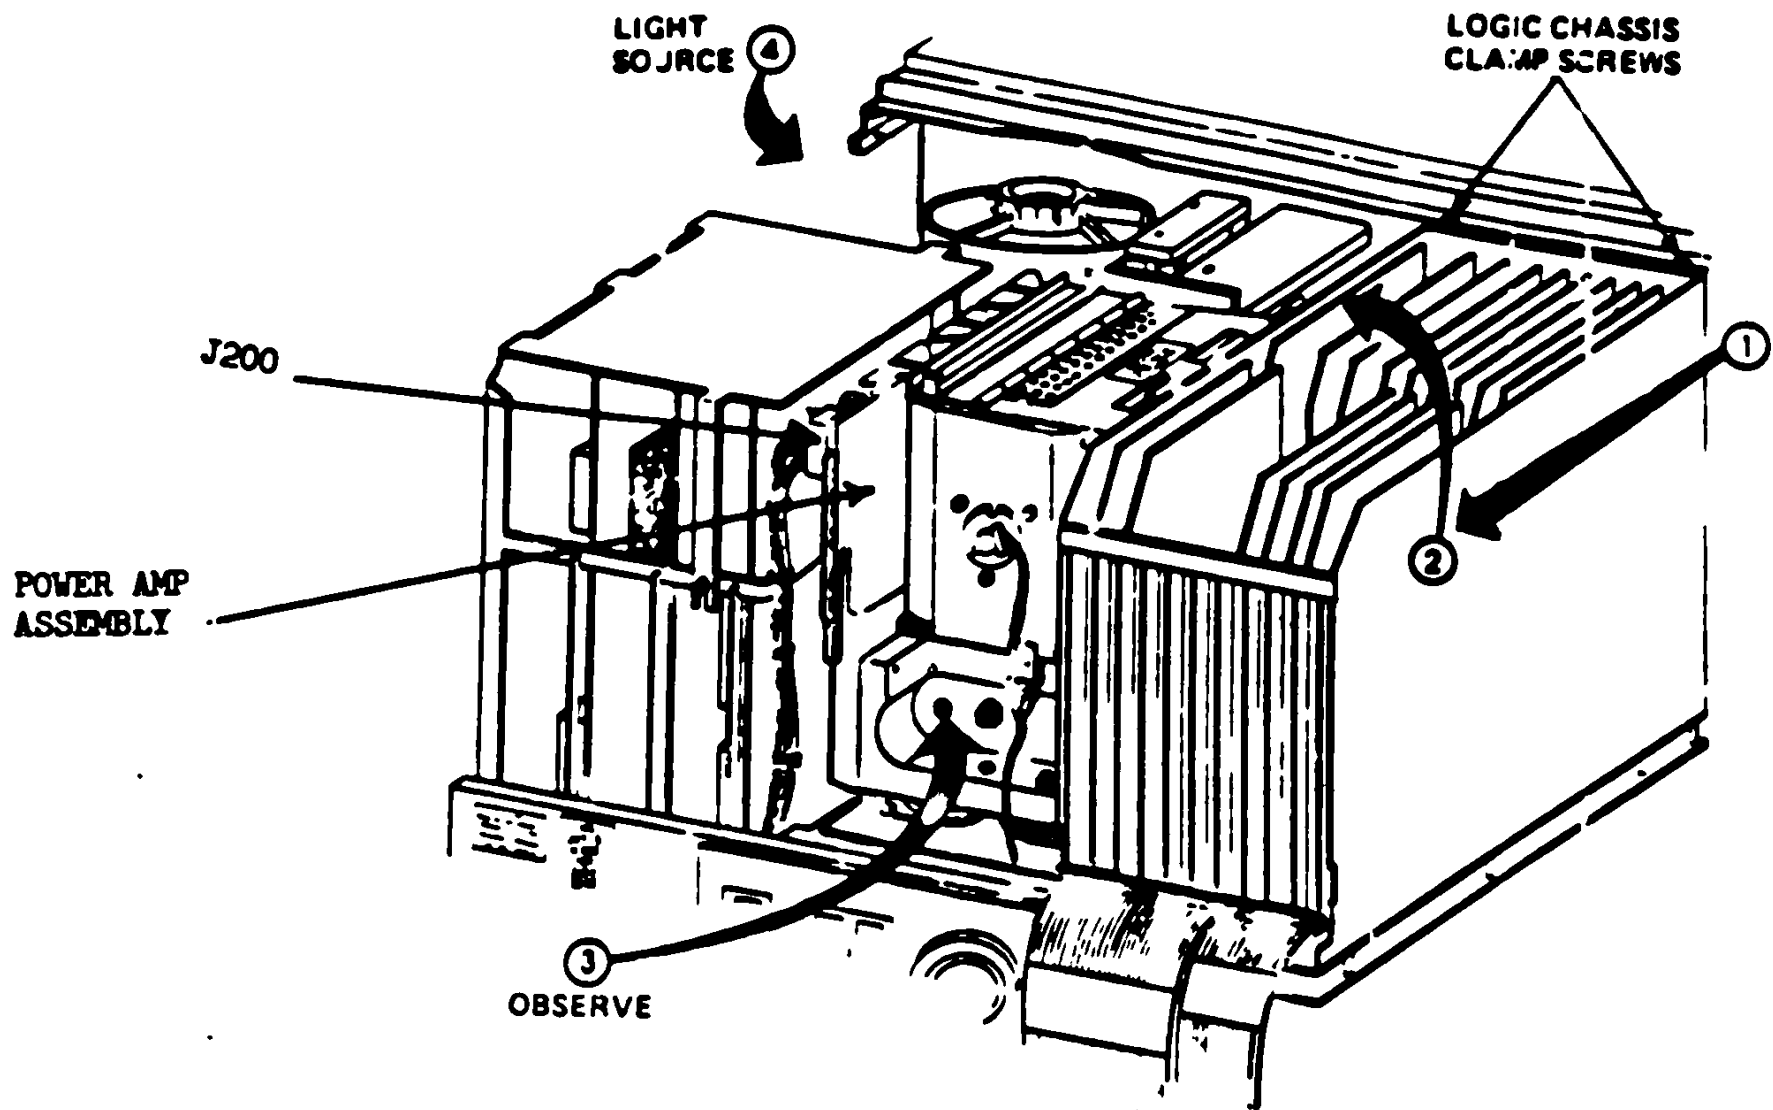
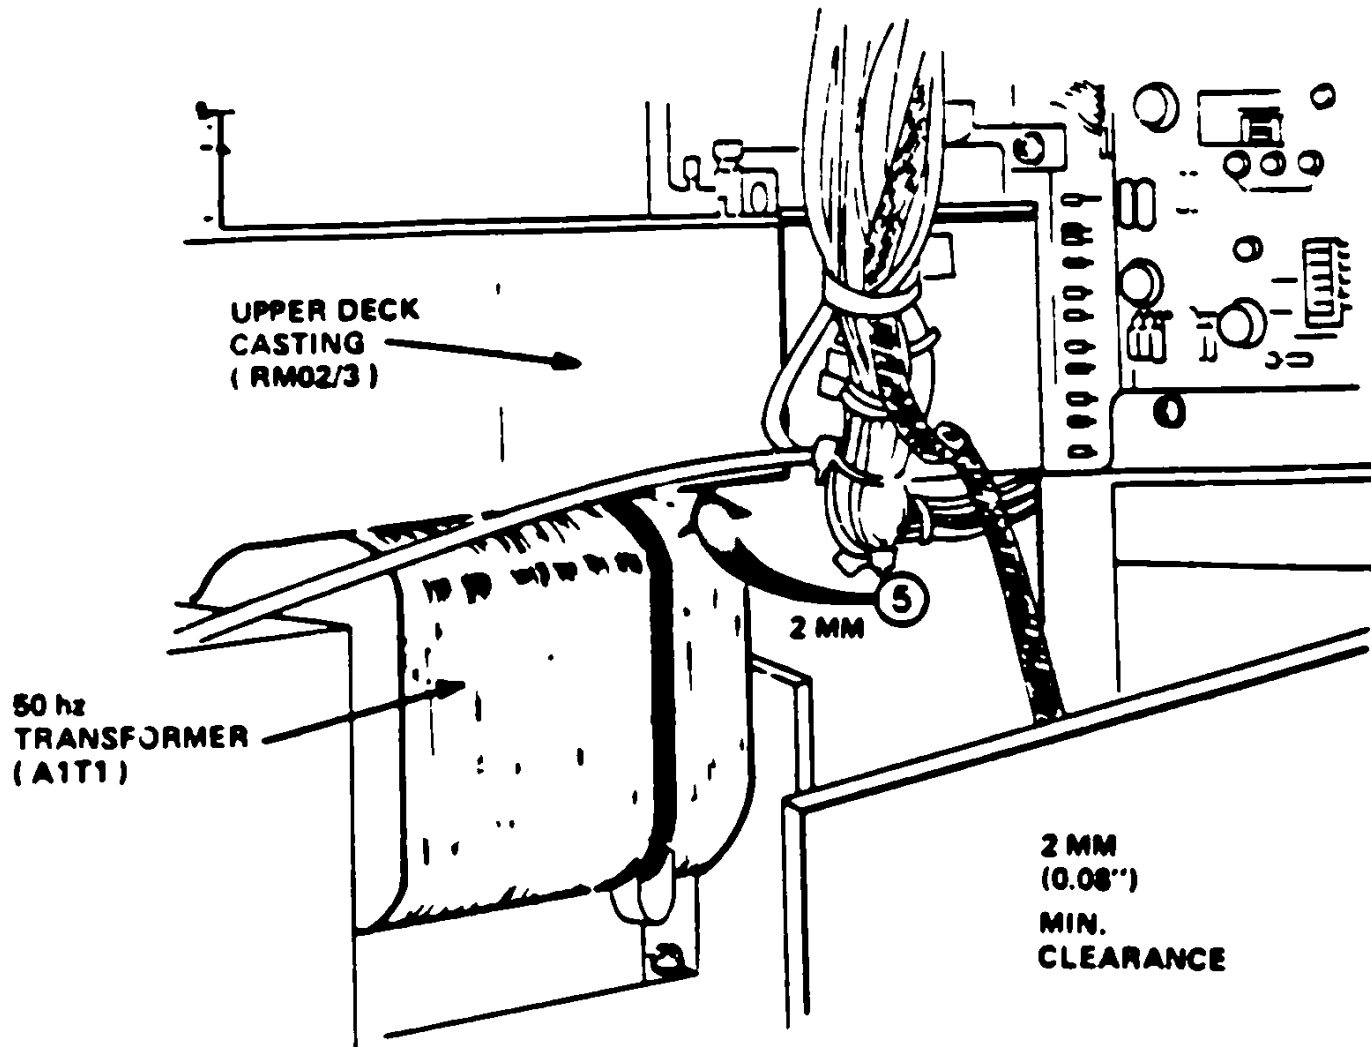
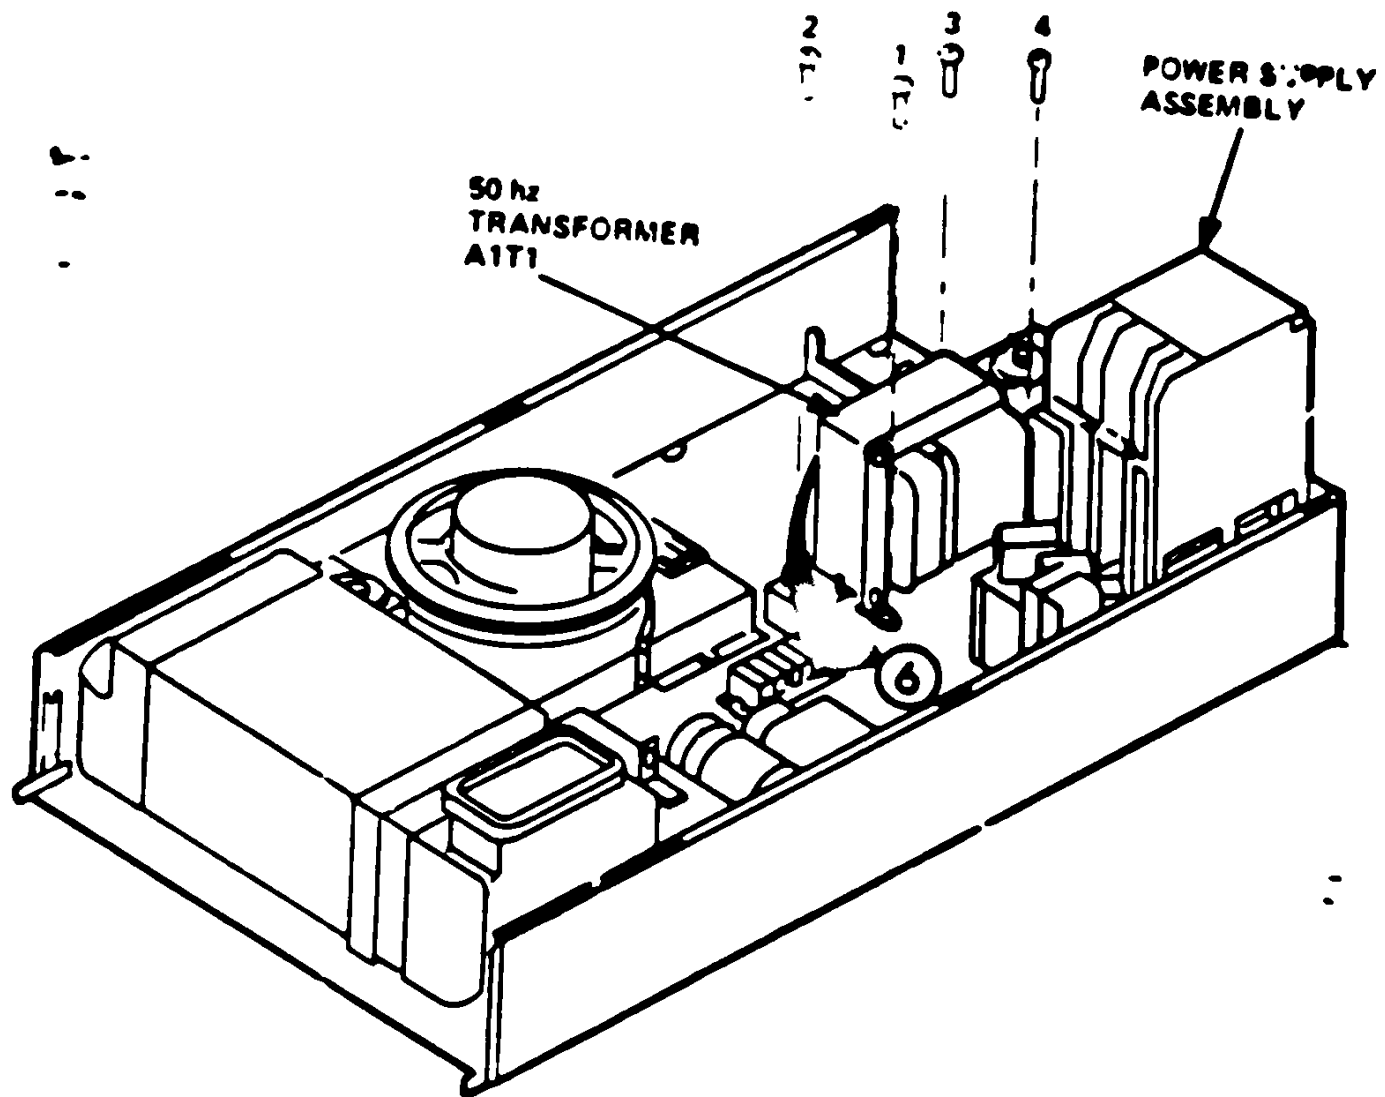
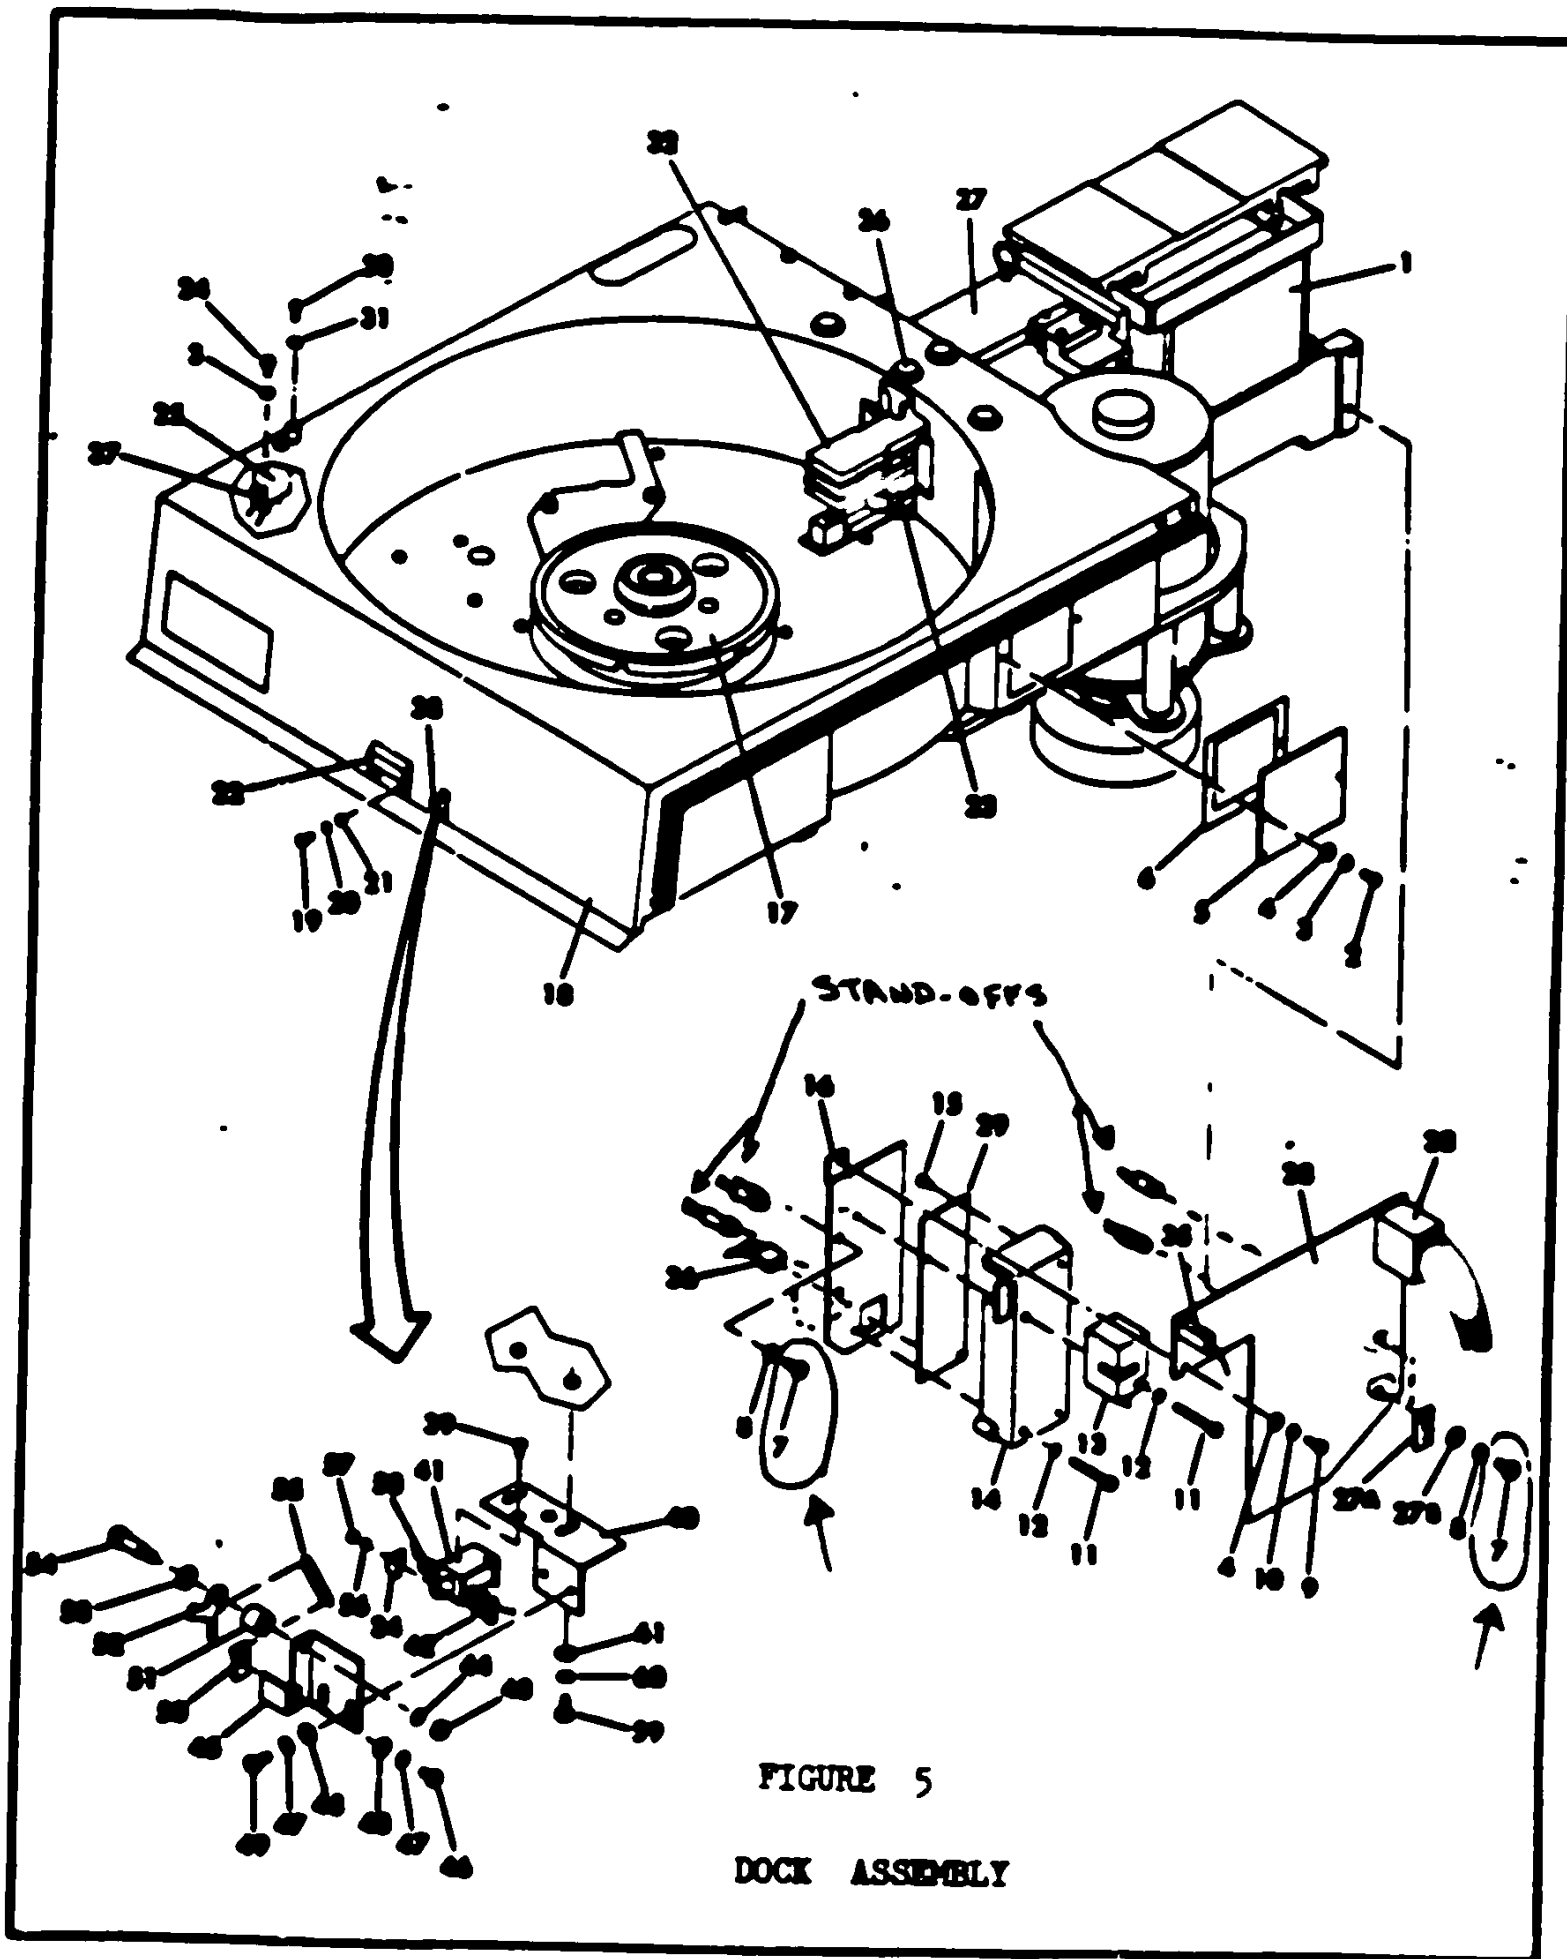

FIGURE 1
FIGURE 3
FIGURE 4
FIGURE 5
3. Loosen the logic chassis clamp screws from the rear of the drive (See FIGURE 1).
4. Carefully slide the logic chassis (on its hinges) towards the rear of the drive and then up and to the left (counter clockwise) into the maintenance position (ARROWS 1 & 2 in FIGURE 1).
6. The upper deck plate assembly may have to be raised into its maintenance position to view all areas of the transformer, (a closer view of the transformer is shown in FIGURE 3).
9. With the deck in its lowered position, check to be sure that there is a minimum clearance of 2mm (.08 inches), between both the left and right side of the AC power transformer winding insulation and any part of the upper deck plate assembly. The critical areas of clearance are noted by the arrows labeled with no. 5 in FIGURE 3. A flashlight and feeler gauge may be required. The side of the transformer closest to the power supply assembly, see FIGURE 4, can be observed by looking through the hole in the rear of the positioner (ARROW 3, FIGURE 1) and applying sufficient light (with a flashlight) as shown by ARROW 4 in FIGURE 1. Assure that there are no pinched wire harnesses and no chance of damage due to contact between the transformer assembly and the upper deck chassis or other surrounding components.
5. Slightly loosen the transformer mounting screws #1, #2, #3, and #4 (shown in FIGURE 4).
**NOTE: ACCESS TO TRANSFORMER MOUNTING SCREW #4 MAY BE OBTAINED BY FIRST REMOVING THE POWER AMP ASSEMBLY MODULE LOCATED ON THE SIDE OF THE HEADS ACTUATOR ASSEMBLY, (SEE FIGURE 1).**
- A. Remove the quick connect terminal (yellow leadwire) from Faston on the upper left hand corner of the power amp assembly A3A04 (ITEM 35 on FIGURE 5).
6. Carefully move the transformer to the left or right to obtain the required clearance of 2mm (.08 inches), on both sides of the transformer. This would be in a direction from left-to-right when viewing the transformer from the front of the drive (See ARROW 6 in FIGURE 4).
9. Tighten the four (4) transformer mounting screws.
11. Remove the three (3) transformer mounting screws #1, #2, and #3 as shown in FIGURE 4.
- A. Remove the quick connect terminal (yellow leadwire) from faston on the upper left hand corner of the power amplifier assembly. (Item 35 FIGURE 5).
- E. Remove the two (2) screws that secure the power amp to the deck casting. An offset phillips screwdriver will be needed.
13. Remove transformer screw #4 (FIGURE 4).
21. Remove the two screws (10-32 x 3/8, Item 7 FIGURE 5) that secure the power amplifier to the deck casting. An offset phillips screwdriver will be needed.
23. Remove the uppermost left hand screw (Item 11 FIGURE 5) on the preamp housing shield (Item 13) and save it. Carefully slide back the servo preamp shield (Item 13 FIGURE 5) enough to get access to the servo head plug.
25. Remove the two most left-hand screws (10-32 x 3/8 Item 7 FIGURE 5) that secure the servo preamp housing to the baseplate and discard them. Carefully lift the servo preamp housing up approximately 2 inches. Disconnect connector J-8 (Item 36 FIGURE 5) from the bottom of the servo preamp housing.
27. Install the four new standoffs supplied in the FCO kit to the baseplate in mounting holes for the servo preamp housing and the mounting holes for the power amp assembly, as shown in FIGURE 5.
30. Secure servo preamp shield into place with screw previously removed, see Item 11 Figure 5.
36. Restore the upper deck chassis assembly to its lowered position. Secure the two (2) top deck hold down screws.